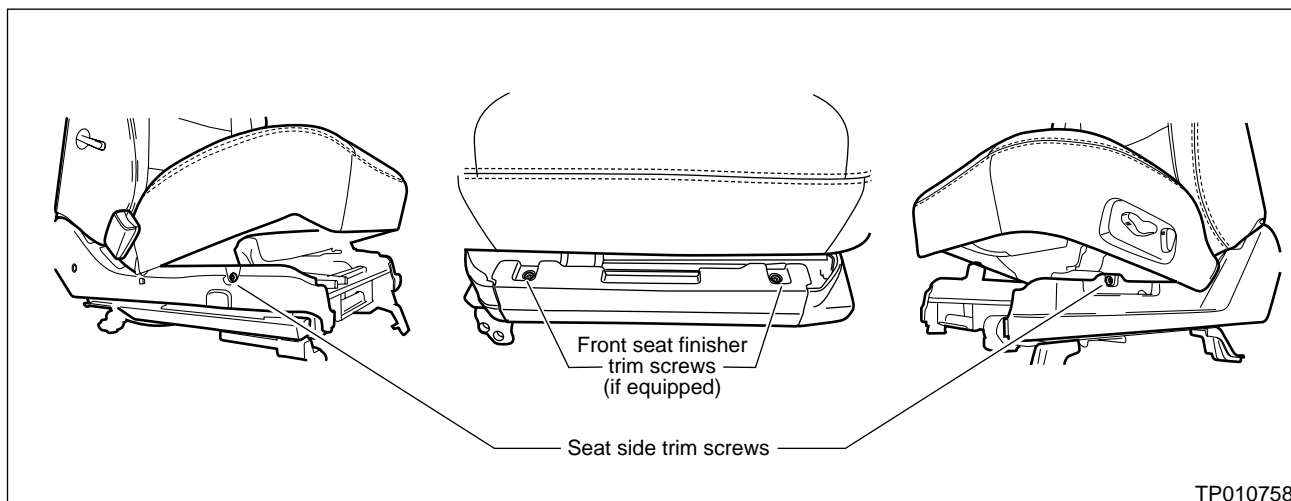

Figure 5
13. Remove the top screw only from the RH & LH side finishers (see figure 5).
- If equipped, remove both screws and finisher from the front edge of the seat (see figure 5).
25. Re-install screws to attach the side finishers (refer to figure 5 on page 4, if needed).